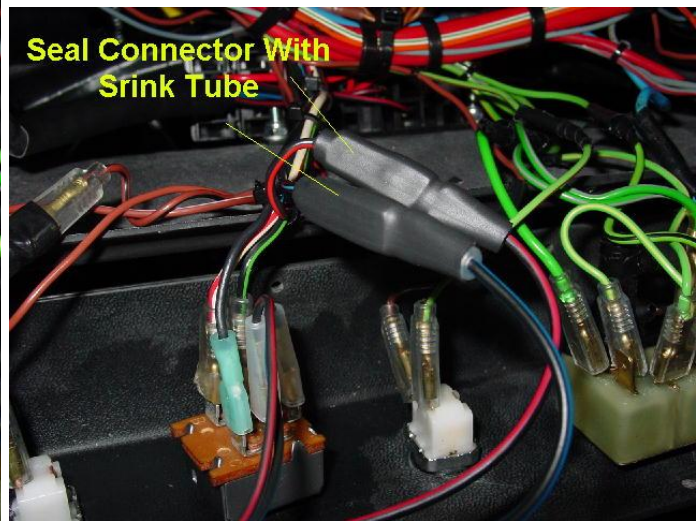

Fig.16
17. Pull the shrink tube over the plugs and seal them together by heating as in figure 16.